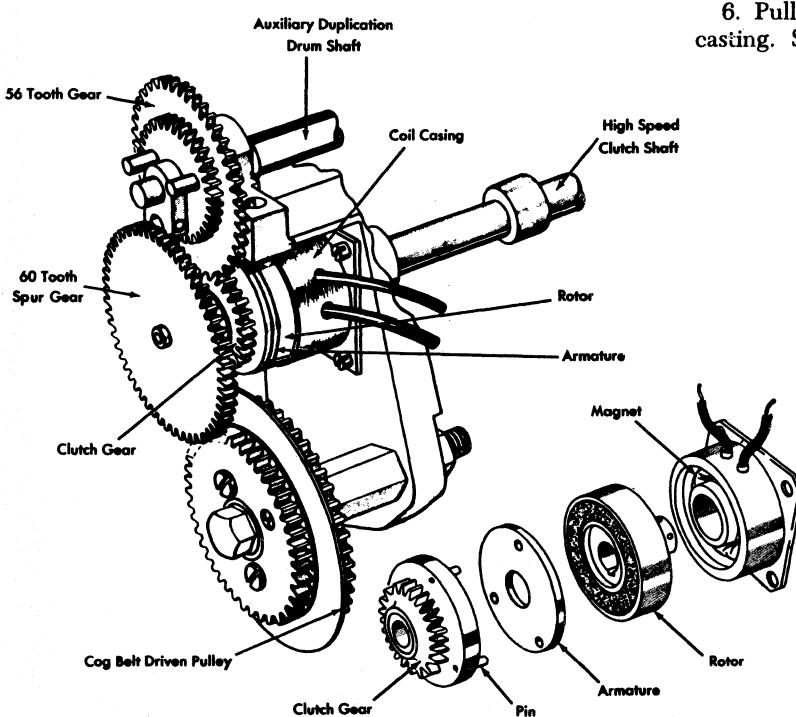

Figure 104. High-Speed Clutch
- Remove large cog belt drive pulley (Figure 104) and cog belt.